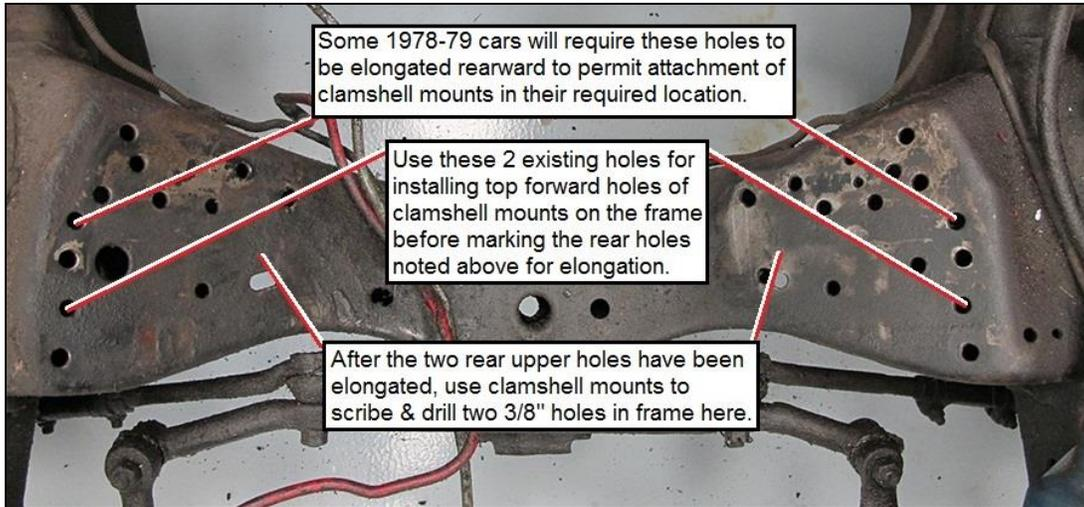

Figure 1
1. Install a new set of clamshell engine mounts (aftermarket rubber replacement clamshell mounts, or the Hooker/Holley clamshell mount cages and poly inserts previously mentioned on page 1) onto the vehicle chassis as shown in **Figures 1, 2 and 3** below.